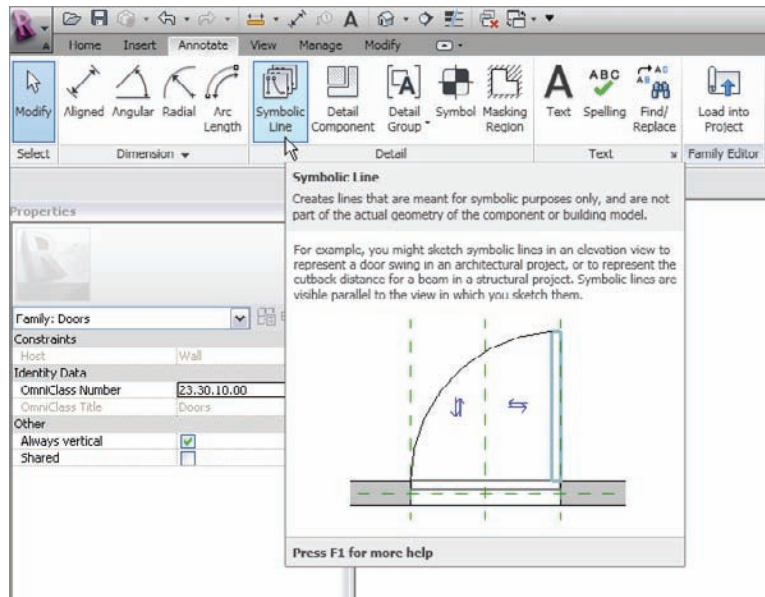

FIGURE 17.26 The Symbolic Line button
1. Go back to the door family. On the Annotate tab, click the Symbolic Line button, as shown in Figure 17.26.